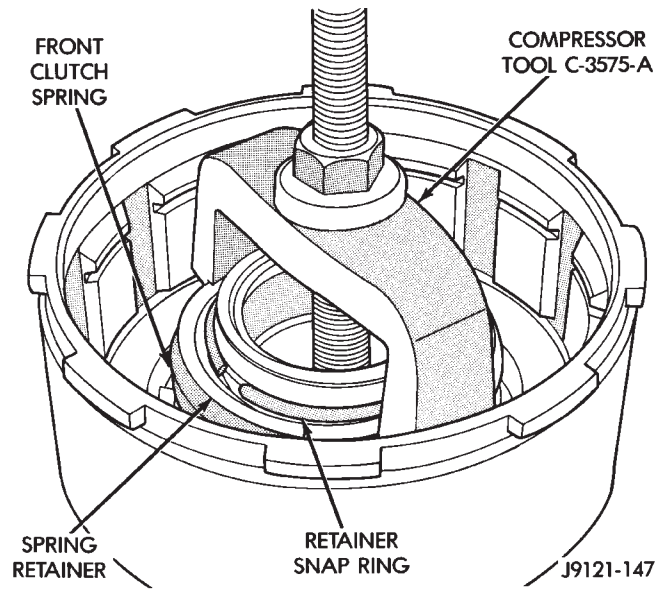

Fig. 63 Compressing Front Clutch Piston Spring
(2) Compress clutch piston spring with Compressor Tool C-3575-A (Fig. 63). Be sure legs of tool are seated squarely on spring retainer before compressing spring.
(3) Remove retainer snap ring and remove compressor tool.
(4) Remove spring retainer and clutch spring. Note position of retainer on spring for assembly reference.
(5) Remove clutch piston from clutch retainer. Remove piston by rotating it up and out of retainer.
(6) Remove seals from clutch piston and clutch retainer hub. Discard both seals as they are not reusable.